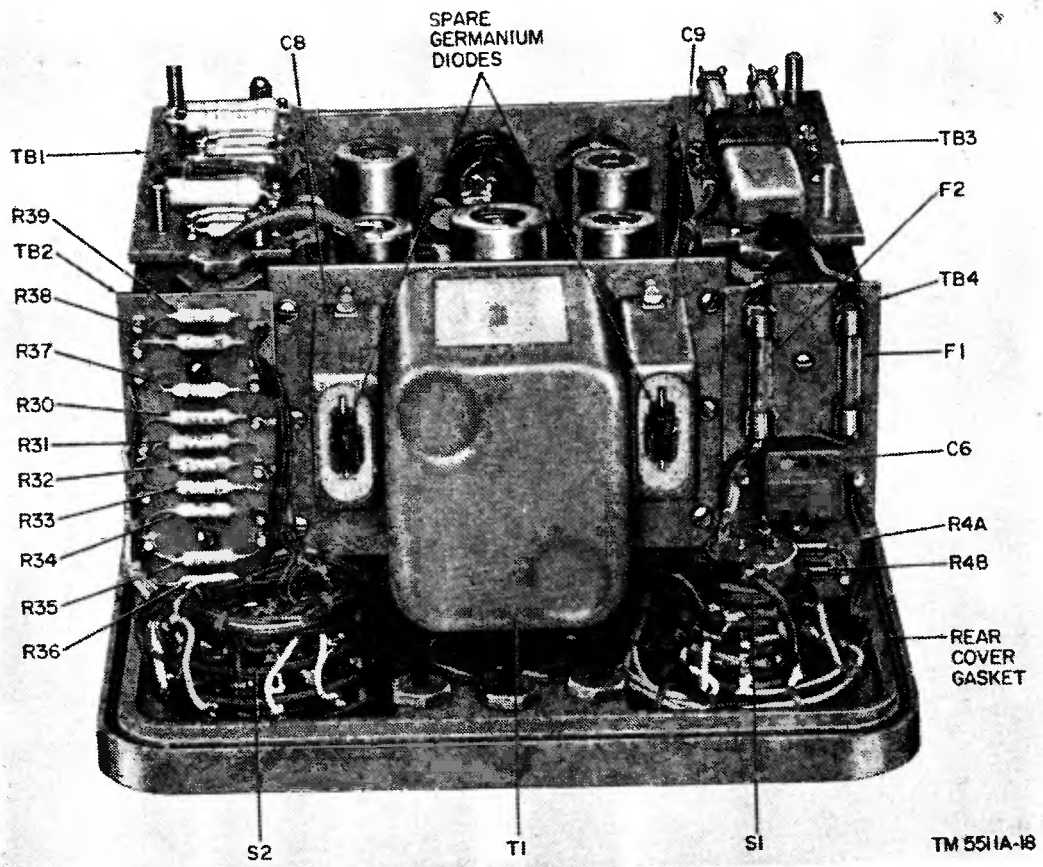

Figure 18. Multimeter, case removed, top view.
The dc resistances and voltage output of transformer T1 (fig. 18) are listed in the following table:
a. Removal of Front Panel and Chassis Assembly (fig. 18).
- (1) To service the multimeter, first remove the front panel and chassis assembly as follows :